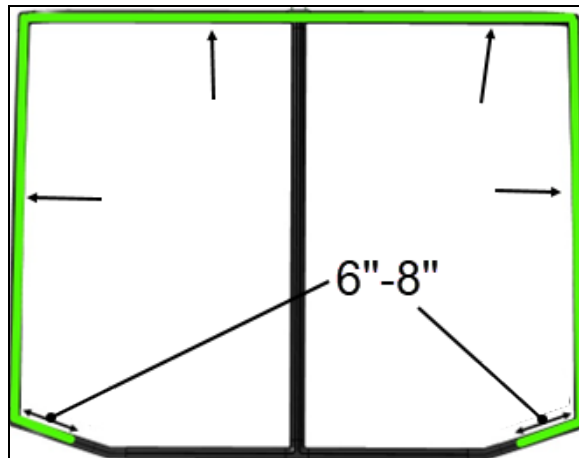
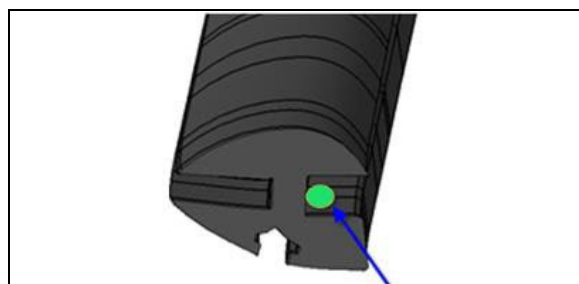
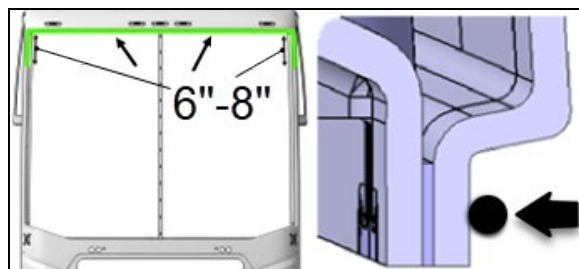

FIGURE 55
FIGURE 56: BEAD OF BLACK SIMSON 70-03 SEALANT
FIGURE 57: BEAD OF BLACK SIMSON 70-03 SEALANT
2. Clean the rubber extrusion groove (Figure 55) that will be in contact with the front fiber panel on the 3 sides and on a length of 8" at the bottom, both sides (Figure 56).
3. Apply a 1/8" (3 mm) bead of black Simson 70-03 sealant at the bottom of the groove (Figure 57) that will be in contact with the front fiber panel on the 3 sides and on a length of 8" at the bottom, both sides (Figure 56).